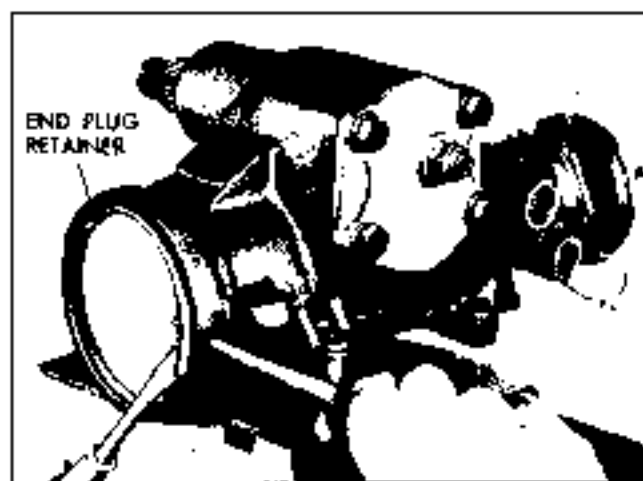

Fig. 9-57 Removing End Plug Retaining Ring
1. Remove end plug retaining ring as shown in Fig. 9-57.